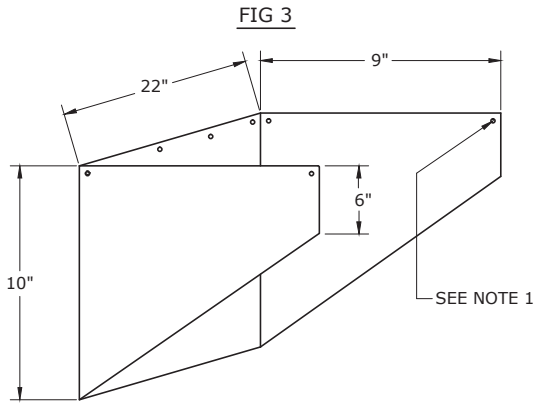

FIG 3
1. ATTACH GLARE SHIELD (FIG. 3 & 4) TO LIGHT FIXTURE WITH 1/2" LONG STAINLESS SELF-TAPPING SCREWS (PROVIDED BY MANUFACTURER).